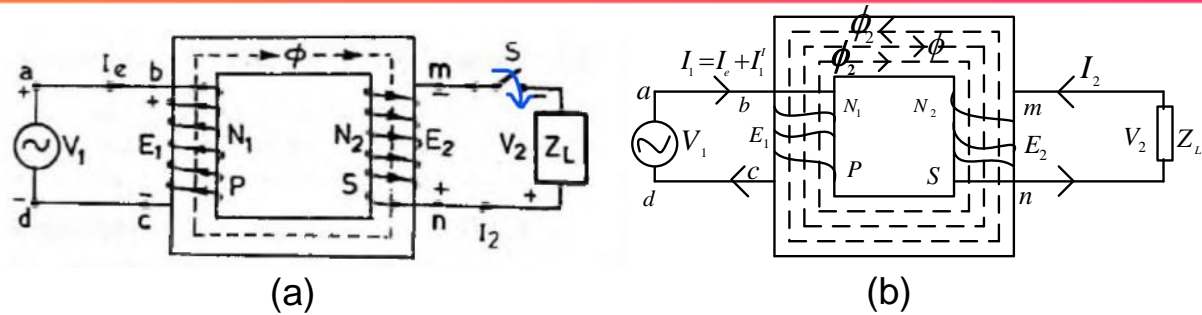

Fig. 5 (a) and (b), Ideal transformer under load
- In Fig. 5, the secondary mmf  $F_2$  being opposite to  $\phi$  tends to reduce the alternating mutual flux  $\phi$ .
- Thus the primary draws more current  $I_1'$  from the source to neutralize the demagnetizing effect of  $F_2$  such that  $I_1' N_1 = I_2 N_2$  (9) i.e. compensating primary mmf  $F_1 =$  secondary mmf  $F_2$